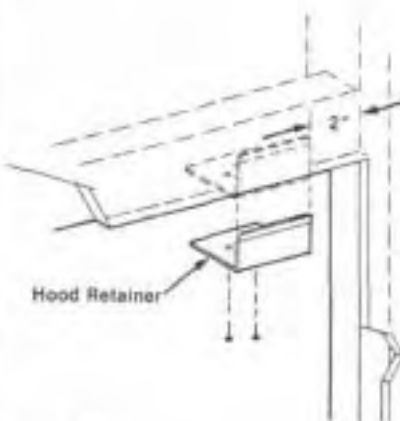

Figure 10
Step 1: Secure the two (2) hood retainers to the underside of the header and against the finished wall surface. Nail from underside using two 8d nails (Figure 10).